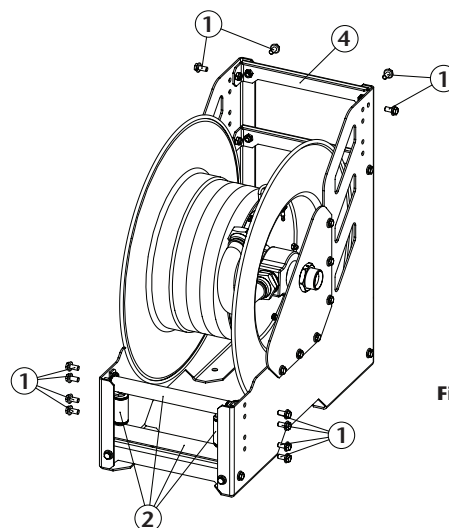

Fig. 1
3. Unscrew the bolts (1), take out the hose outlet rollers (2), and disassemble the crosspiece (4) (fig. 1).